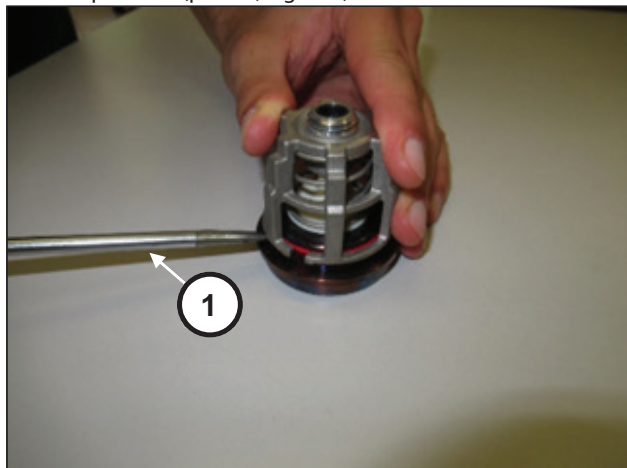

Fig. 146
Disassemble the suction and outlet valve units by levering with simple tools (pos. ①, Fig. 146).